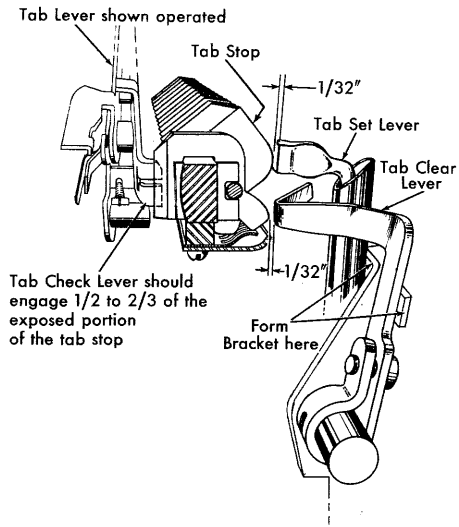

Figure 47. Tab Set and Clear Adjustment
2. Form the tab set bracket (Figure 47) so that when the tab stops are in the non-operating position, there is a clearance of about 1/32" between the tab stops and the tab set lever.
3. Form the tab clear bracket so that, when the tab stops are in the operating position, there is a clearance of about 1/32" between the tab stops and the tab clear lever (Figure 47).